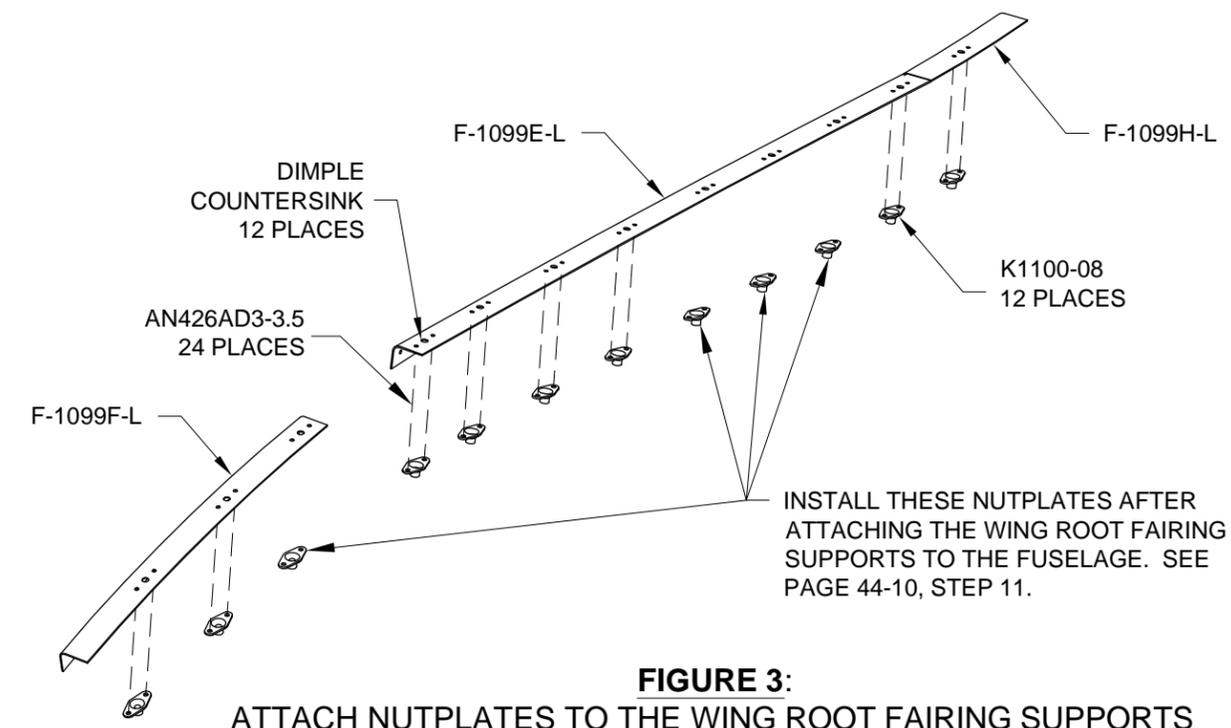

FIGURE 3:
Step 3: Remove all wing root fairing supports. Final-Drill #40 F-1099E-L, F-1099F-L and F-1099H-L Wing Root Fairing Supports for the nutplate rivet holes using a K1100-08 nutplate as a guide. Deburr these holes. Dimple the #40 holes for AN426AD3 rivets. Dimple the nutplates to receive the dimple in the angle for the nutplate attach rivets. Deburr the #19 holes then dimple them to receive the dimpled F-1099A Wing Root Fairing. Prime if/as desired. Except for the four to be attached later, rivet the nutplates in place using the hardware callouts in Figure 3.